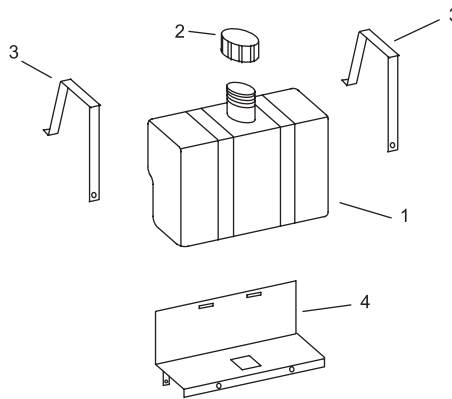

Fig. 2 - Fuel Tank Attachment
5. **See Figure 2.** Place tank straps “3” in the tank bracket “4” slots and bend tabs up and back against the bracket. Place the fuel tank in position and attach the straps at their lower end using two 6mm bolts.